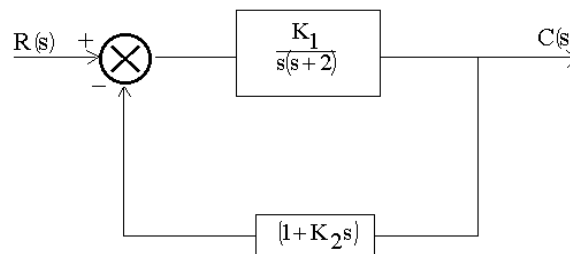

Fig. 7
- Q.5** For the system shown in the block diagram of Fig.7 determine the values of gain K_1 and velocity feedback constant K_2 so that the maximum overshoot with a unit step input is 0.25 and the time to reach the first peak is 0.8 sec. Thus obtain the rise time and settling time for 5% tolerance band. (10)